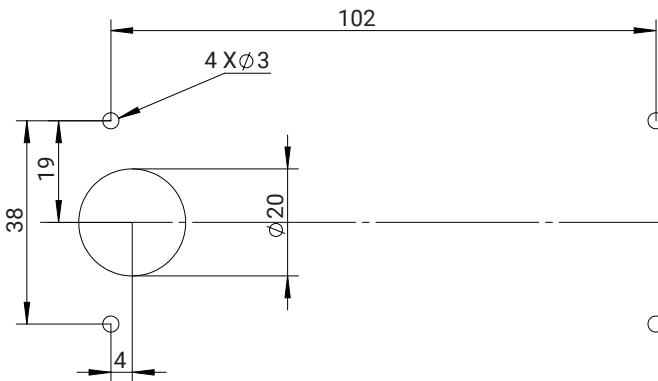

Figure 2-7
③ Paste a film which is in the package.
① Drill holes on the hull through the fixing guide referring to the figure 2-7.